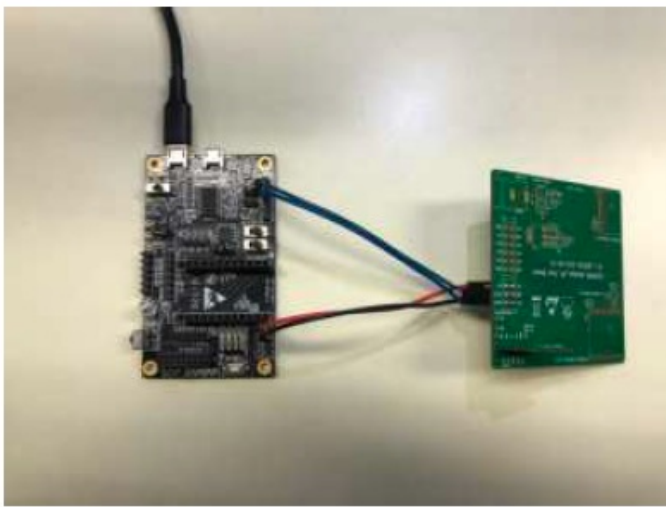

Figure 2: Hardware Connection
1. Solder the ESP8685-WROOM-05 module to the RF testing board as shown in Figure 2.